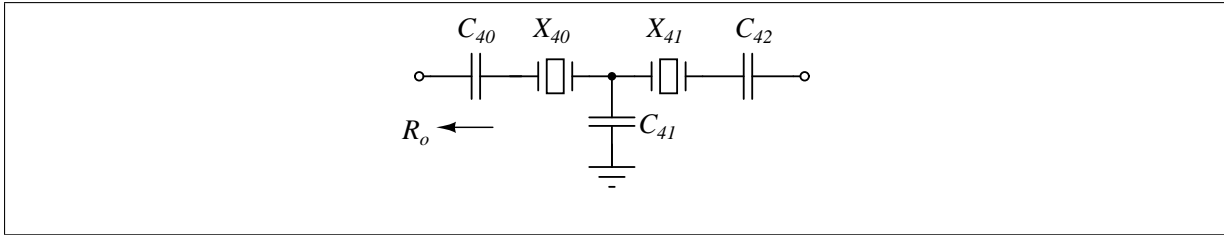

Figure 5: IF Filter schematic.
- The IF filter of TRC-11 is given in Fig. 5. Start building the filter by placing the crystal X40 and its corresponding series capacitor C40 in their places. Solder them.